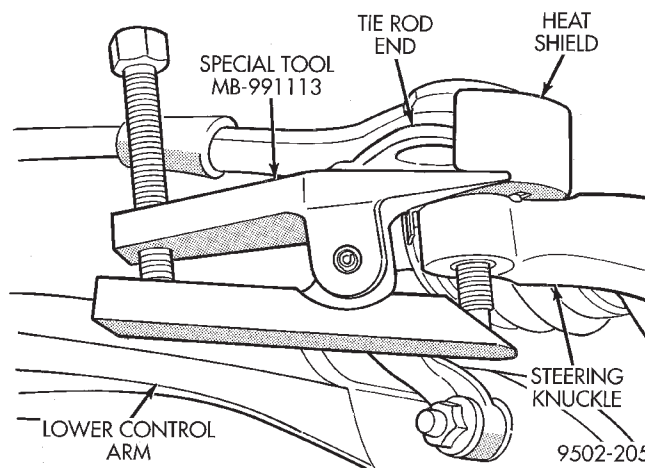

Fig. 33 Tie Rod End Removal From SteeringKnuckle
(3) Remove tie rod end stud, from steering knuckle, using Remover, Special Tool MB-991113 (Fig. 33).